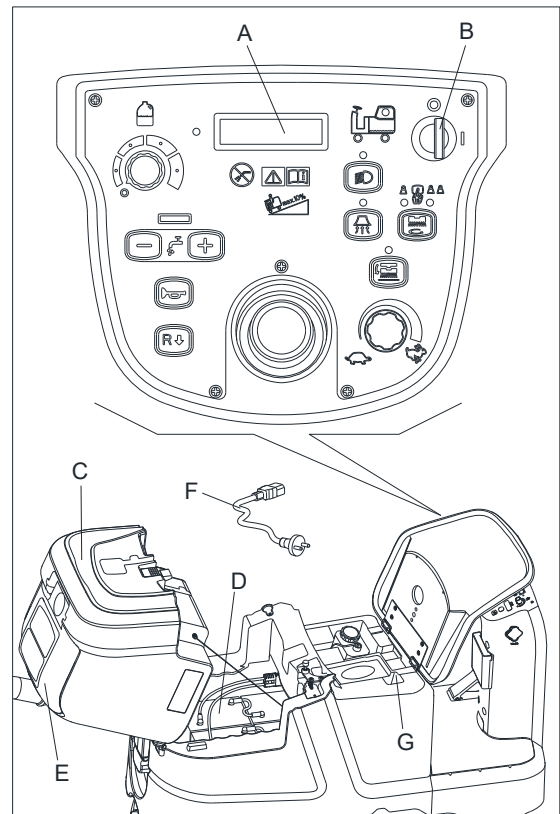

Figure 18
Re-charge the batteries when there is only two or less two rectangular show at the right bottom LCD screen (A, Figure18), or after every time cleaning work.
1. Open the recovery tank cover (E, Figure 18) to check if the recovery tank (C Figure 18) is empty, or empty the recovery tank through the drain hose.
3. Turn the key switch (B Figure 18) to “O”.
4. Carefully lift the recovery tank (C Figure 18).
- Check the battery electrolyte level of the batteries (D Figure 18), if necessary, open the cover to full fill electrolyte, and then recover it.